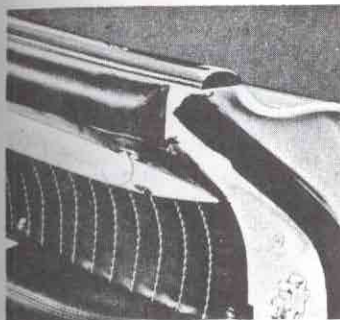

Fig. 37—Door Window Release Handle
4. To remove, loosen thumbscrew, pull back on ball handle at rear of door (fig. 37), lift up rear of assembly and remove by withdrawing offset extension from front of door